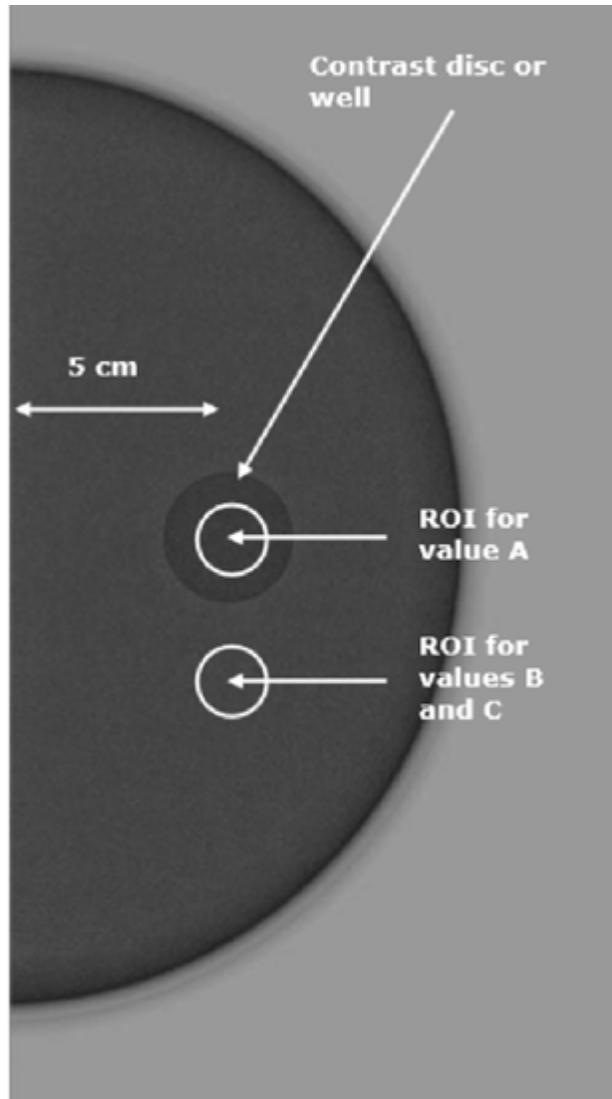

Figure 3: ROIs in the image of the weekly QC phantom used to calculate the signal difference to noise ratio.
13. With the image displayed so that the signal difference to noise ratio (SDNR) contrast disc or well is clearly visible (see **Figure 3**), place a circular ROI of approximately 1 cm in diameter (approximately 0.8 cm²) over, and entirely contained within the contrast